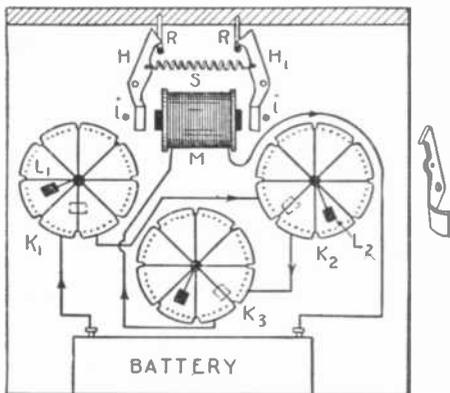

FIG. 1
Fig. 1 shows the arrangement and wiring of the combination lock. It is reproduced in natural size so that no measurements need be given. (AAAA) is the inner side of one wall of the bank to be made of any wood selected. (D) is a sectional cut of the lid. The various parts are mounted on the board as shown. (M) is the electro-magnet. (H) and (H1) are lever hooks, the construction of which is plainly shown in Fig. 2. They are screwed to the wood so that they can turn upon the screw. The spiral spring (S) holds them in position so that they lock into the staples (R) and (R1) fastened to the lid and thus keep the bank locked. If a current goes through the magnet, the broad